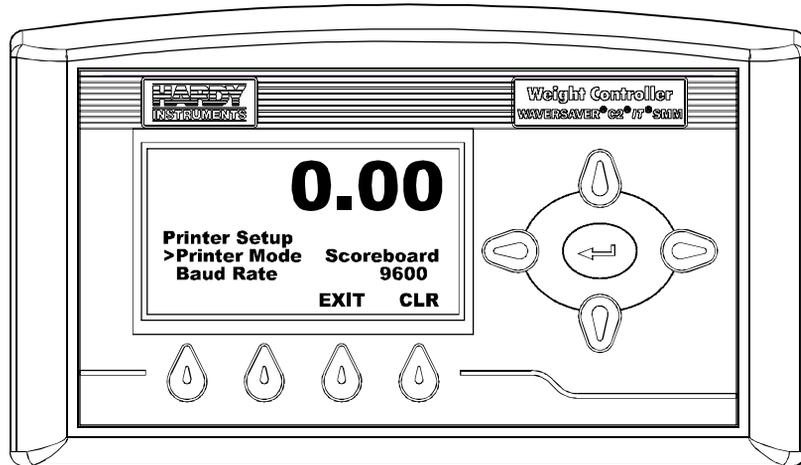

FIG. 95 PRINTER SETUP/SELECTING SCOREBOARD
- Step 1. From the Printer Setup display press the down arrow button until the cursor is in front of Printer Mode. (See Fig. 95)